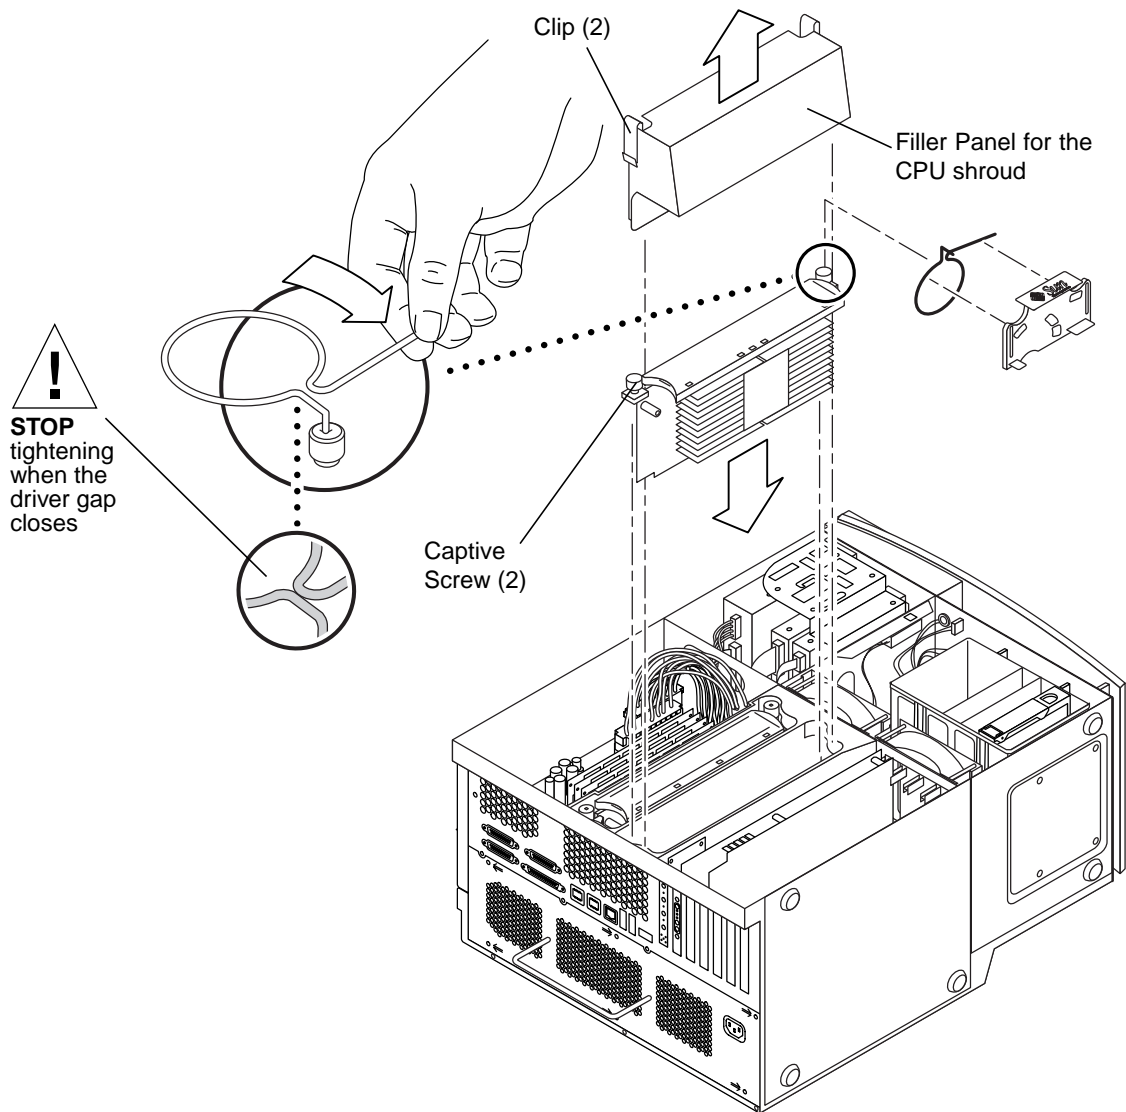

FIGURE 6 Installing the UltraSPARC-III CPU Module
1. If necessary, place the system on its side on a work surface, open side facing up (see FIGURE 6).
**b. Use the torque tool to loosen the captive screws on the ends of each module (see FIGURE 6).**
**5. Remove the filler panel for the CPU shroud assembly by pressing in on the clips on each end of the filler panel and removing it from the chassis (see FIGURE 6).**
Use the torque tool to tighten the screws to the correct torque. The correct torque setting is indicated when the gap in the torque indicator tool is closed (see FIGURE 6).